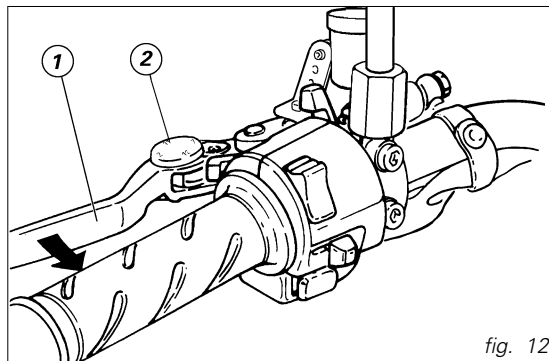

fig. 12
Clutch lever (fig. 12)
Lever (1) (fig. 12) disengages the clutch. It features a dial adjuster (2) (fig. 12) for lever distance from the twistgrip on handlebar.
To set lever distance from twistgrip, push lever (1) (fig. 12) fully forward and turn the dial adjuster (2) (fig. 12) to one of its four positions. Remember that position no. 1 gives maximum distance between lever and twistgrip, whereas lever and twistgrip are closest when adjuster is set to position no. 4.
When you pull in the lever (1) (fig. 12), you will disengage the engine from the gearbox and therefore from the driving wheel. Using the clutch properly is essential to smooth riding, especially when moving off.